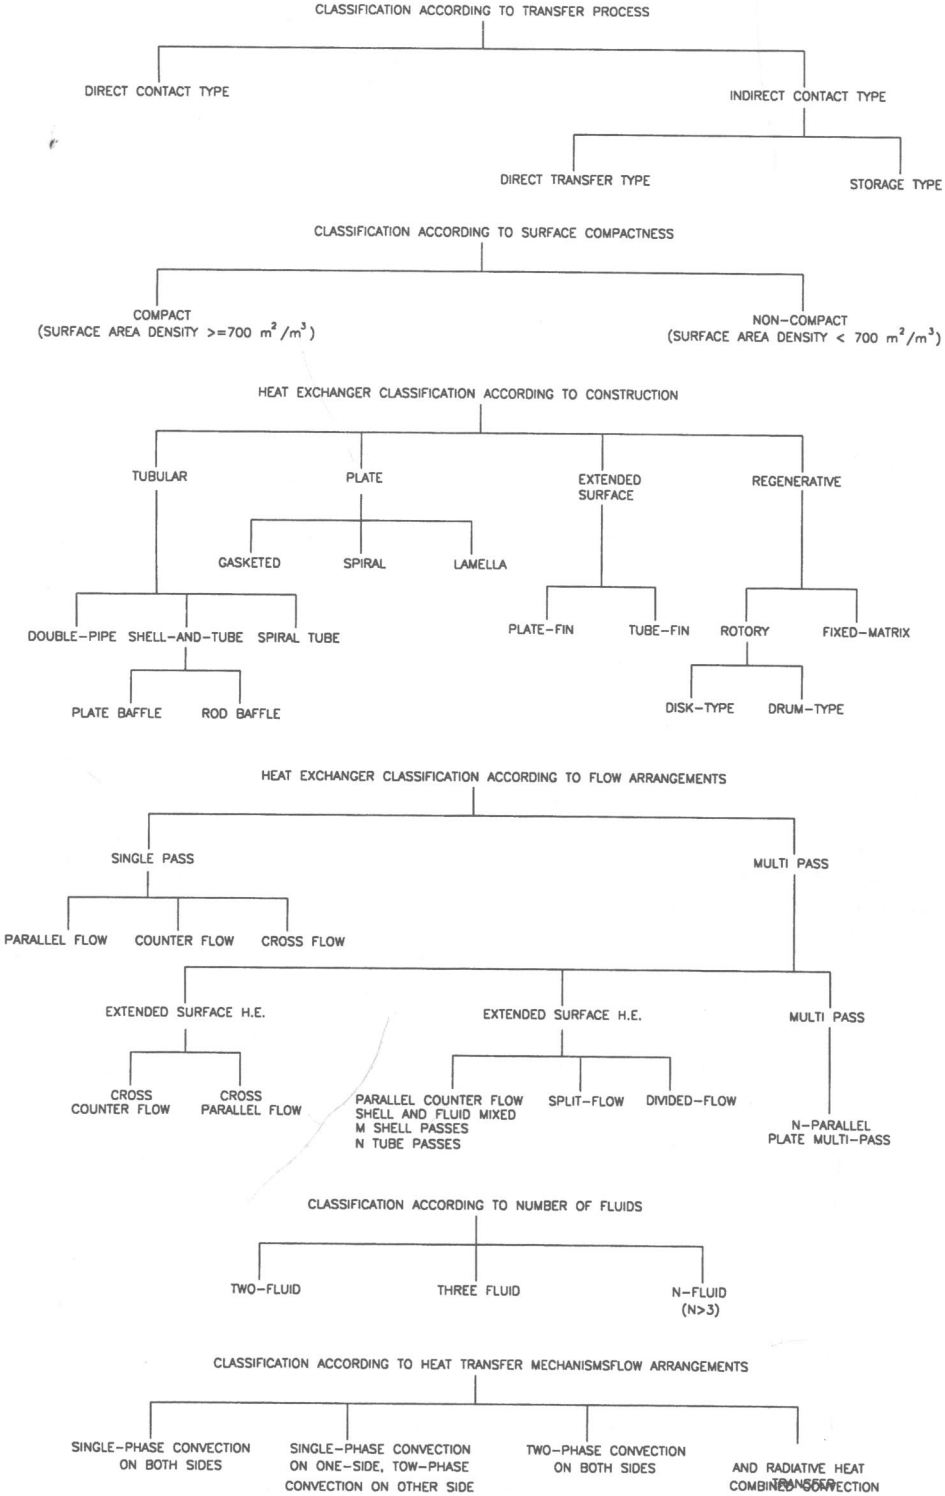

Figure 1 Classification of heat exchangers [1].
In general, industrial heat exchangers have been classified according to (1) construction, (2) transfer processes, (3) degrees of surface compactness, (4) flow arrangements, (5) pass arrangements, (6) phase of the process fluids, and (7) heat-transfer mechanisms. These classifications (shown in Fig. 1) are briefly discussed here. For more details on heat exchanger classification